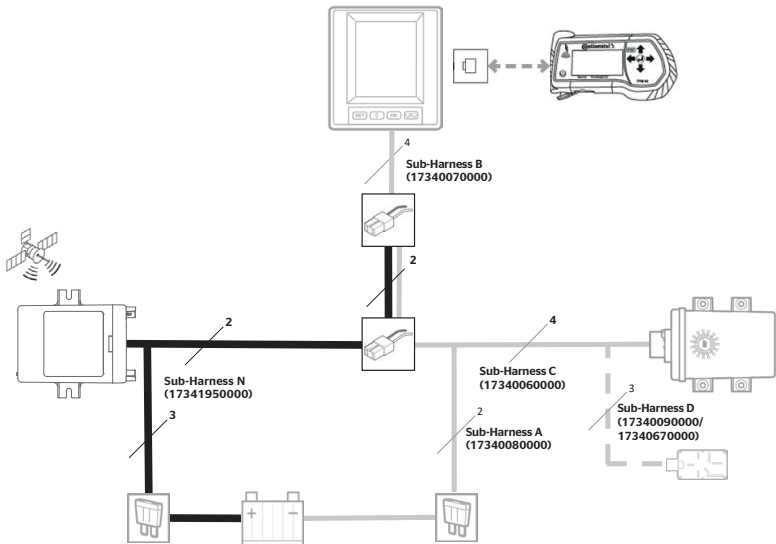

Fig. 1: Variant A
- ◆ Connect the wiring harness N as shown in. **“Fig. 1: Variant A”**